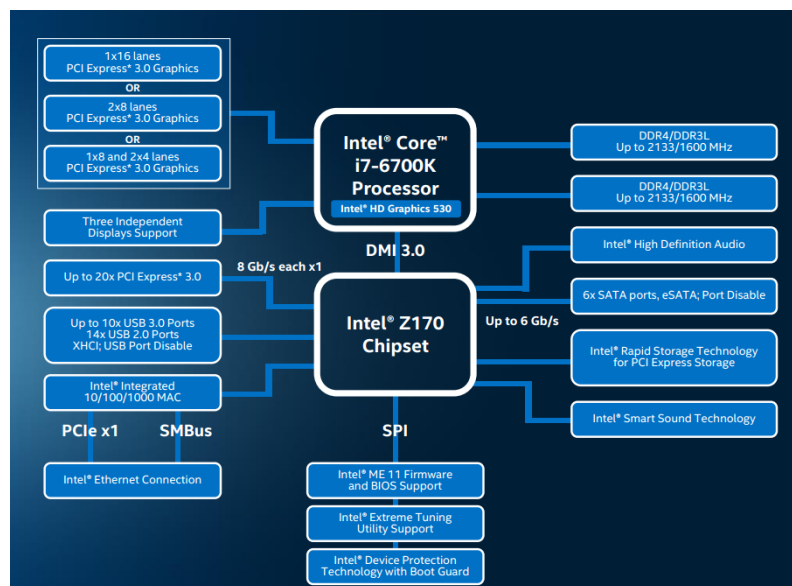

Figure 4.13: Chipset diagram for Intel Skylake processors⁸
- in Figure 4.13, the entire north bridge is already integrated into the CPU case, so everything that was connected to the north bridge in the 4.11 image is now connected to the CPU.